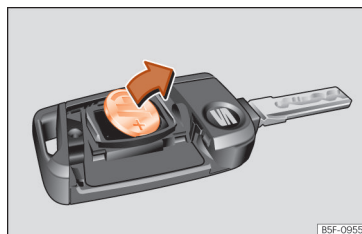

Fig. 80 Vehicle key: removing the battery.
- Extract the battery from the compartment using a suitable thin object »» Fig. 80.
- Place the new battery in the compartment as shown »» Fig. 80, pressing in the opposite direction to that shown by the arrow »» ❷.